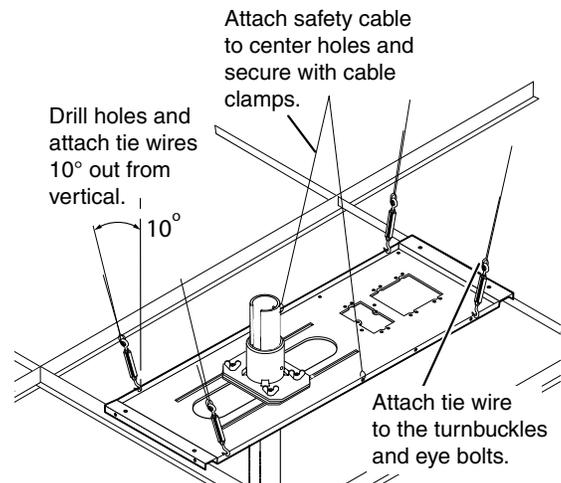

Figure 6 — Attach tie wire and safety cable
- e. Mark and drill holes in the structural ceiling at 10 degrees out from vertical. Drill a fifth hole centered above the PCM for the safety cable (see figure 6).
- g. Loop the safety cable through the anchor or lag eye bolt, attach it to the plate center holes (see figure 6) and secure it with the cable clamps.